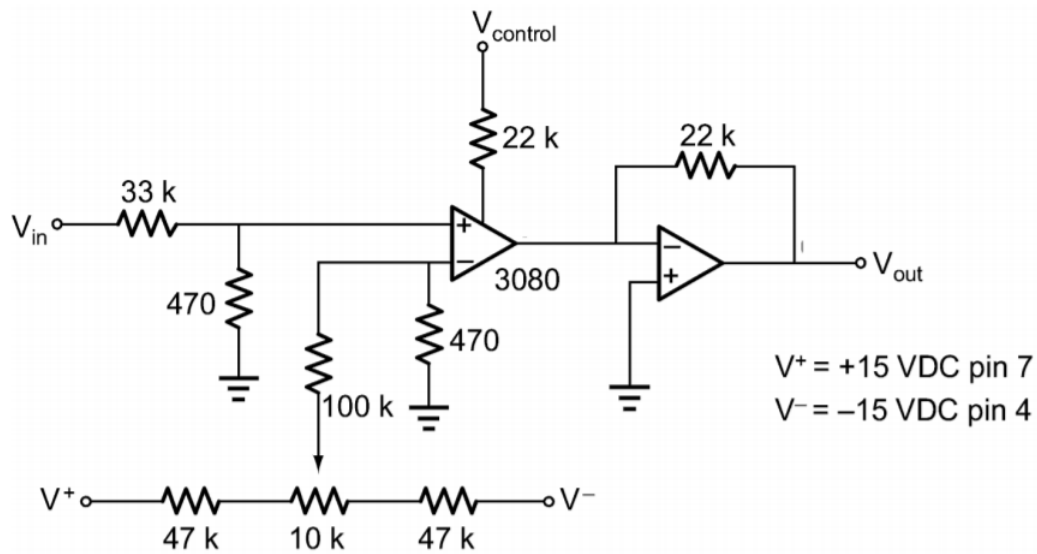

Figure 12.5.1
1. Assemble the circuit of Figure 12.5.1 . Note that the power supplies are only ± 5 VDC, not the usual ± 15 VDC.
3. What is the purpose of the second op amp in Figure 12.5.1?